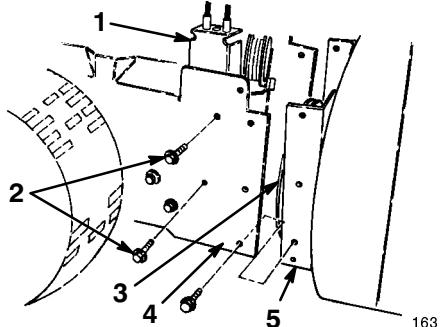

Figure 2
1. Remove the two flange head cap screws that secure the idler pulley assembly to the engine frame, and remove the idler pulley assembly (Fig. 2).
2. Align the auger/impeller housing and the engine frame mounting holes (Fig. 2).
3. Route the impeller belt around the impeller pulley (Fig. 2).
5. Install the idler pulley assembly, aligning the idler pulleys with the belts (Figs. 2 and 30).